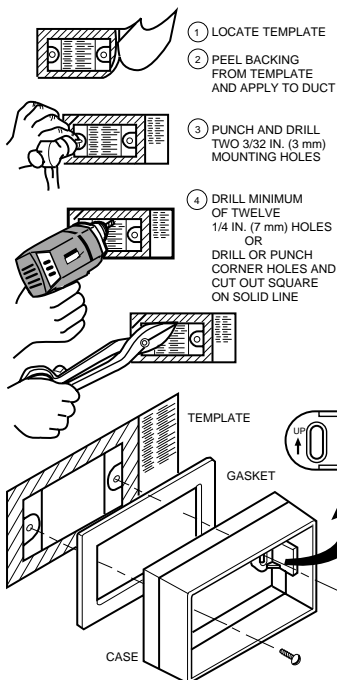

Fig. 4. Mounting humidity controller on return air duct.
- 2 Using Fig. 4 and the instructions on the template, drill two mounting holes (3/32 in. [2.4 mm]) and 12 sensing holes (1/4 in. [6.4 mm] in diameter) in the duct. (The sensing holes allow return air to reach the nylon sensing element and operate the humidity controller.)
NOTE: Tighten the screws firmly so that the gasket seals the space between the case and the duct (Fig. 4).